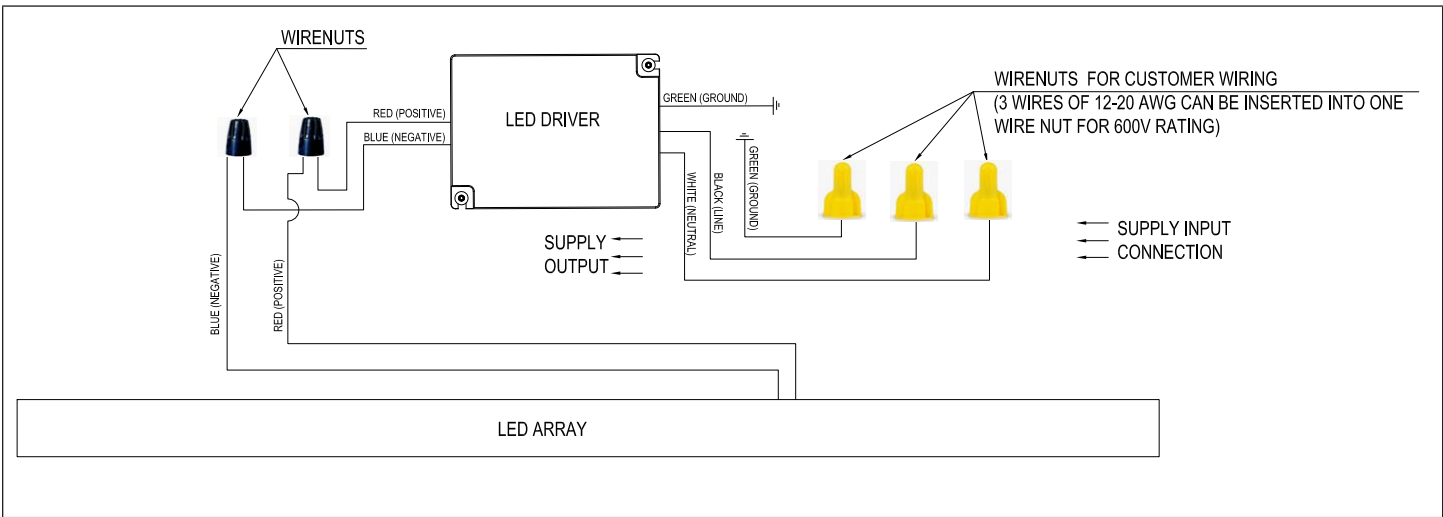

FIGURE 7: FOR RIGMASTER 4000 LUMEN WITH WIRE NUTS FOR CUSTOMER WIRING
3. **For standard Wiring:** Connect electrical power supply leads to the 3 wire conductors coming out of wiring compartment with the help of wire nuts supplied with luminaire: see Figure 6. After completing the wiring insert wire nuts in wiring compartment through the Conduit / Cable entry hole. For Wiring diagram refer to Figures 7 and 8.
4. A. Open the luminaire wiring compartment by loosening the four captive screws. Allow the cover to swing open, enabling access to the wiring compartment. See Figure 6. Pull the wires through the cable entry hole on the other side of the box. Connect electrical power supply leads to the respective wires with the help of wire nuts supplied with luminaire. After completing the wiring insert wire nuts in wiring compartment through the Conduit / Cable entry hole. For Wiring diagram refer to Figures 7 and 8.